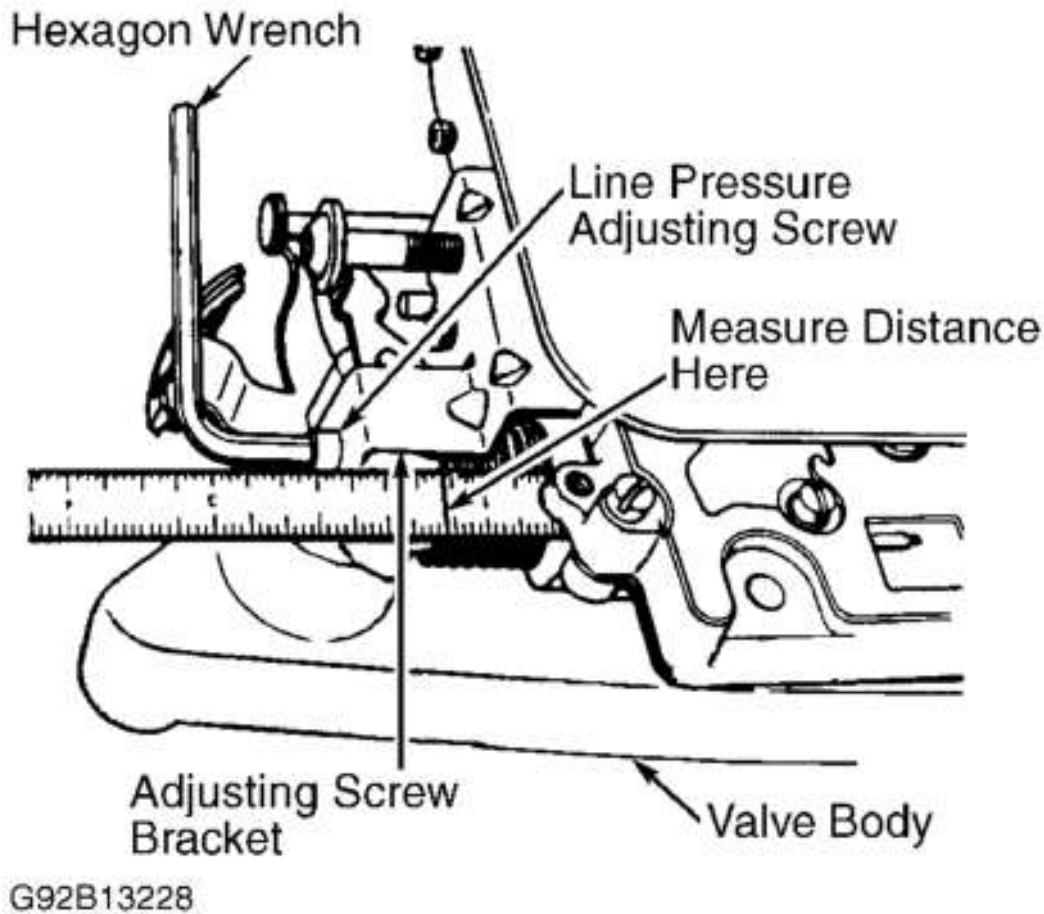

Fig. 5: Identifying Adjusting Screw Bracket & Adjusting Line Pressure
1. Measure distance from valve body to inner edge of line pressure adjusting screw. See Fig. 5 . Rotate line pressure adjusting screw so distance is about 1 5/16".